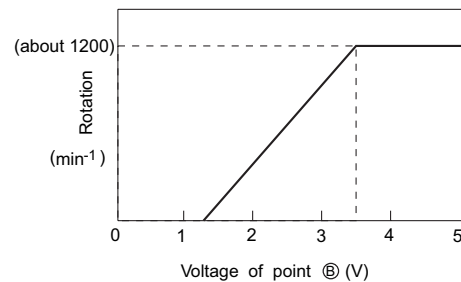

Fig. 5-3
- This pulse changes to analog voltage by R751 and C751 and it is applied to the fan motor as instruction voltage number of rotations. The relationship between the voltage of point B and number of rotations becomes as shown in Fig. 5-3. (The gap may arise depending on the condition of unit.)